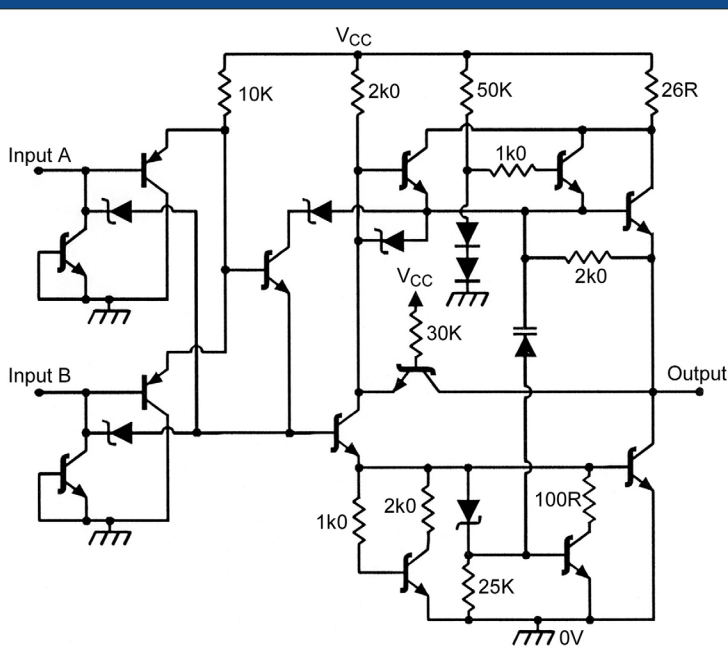

FIGURE 10. Circuit of an advanced Schottky (AS) TTL 74AS00 two-input NAND gate.
Advanced Schottky (AS) TTL — This sub-family is similar to ALS, but its design is optimized to give very high speed at the expense of power consumption. Figure 10 shows the circuit of a 74AS00 two-input NAND gate. Its power consumption is 22 mW and its propagation delay is a mere 2 nS when driving a 50pF/2K load.